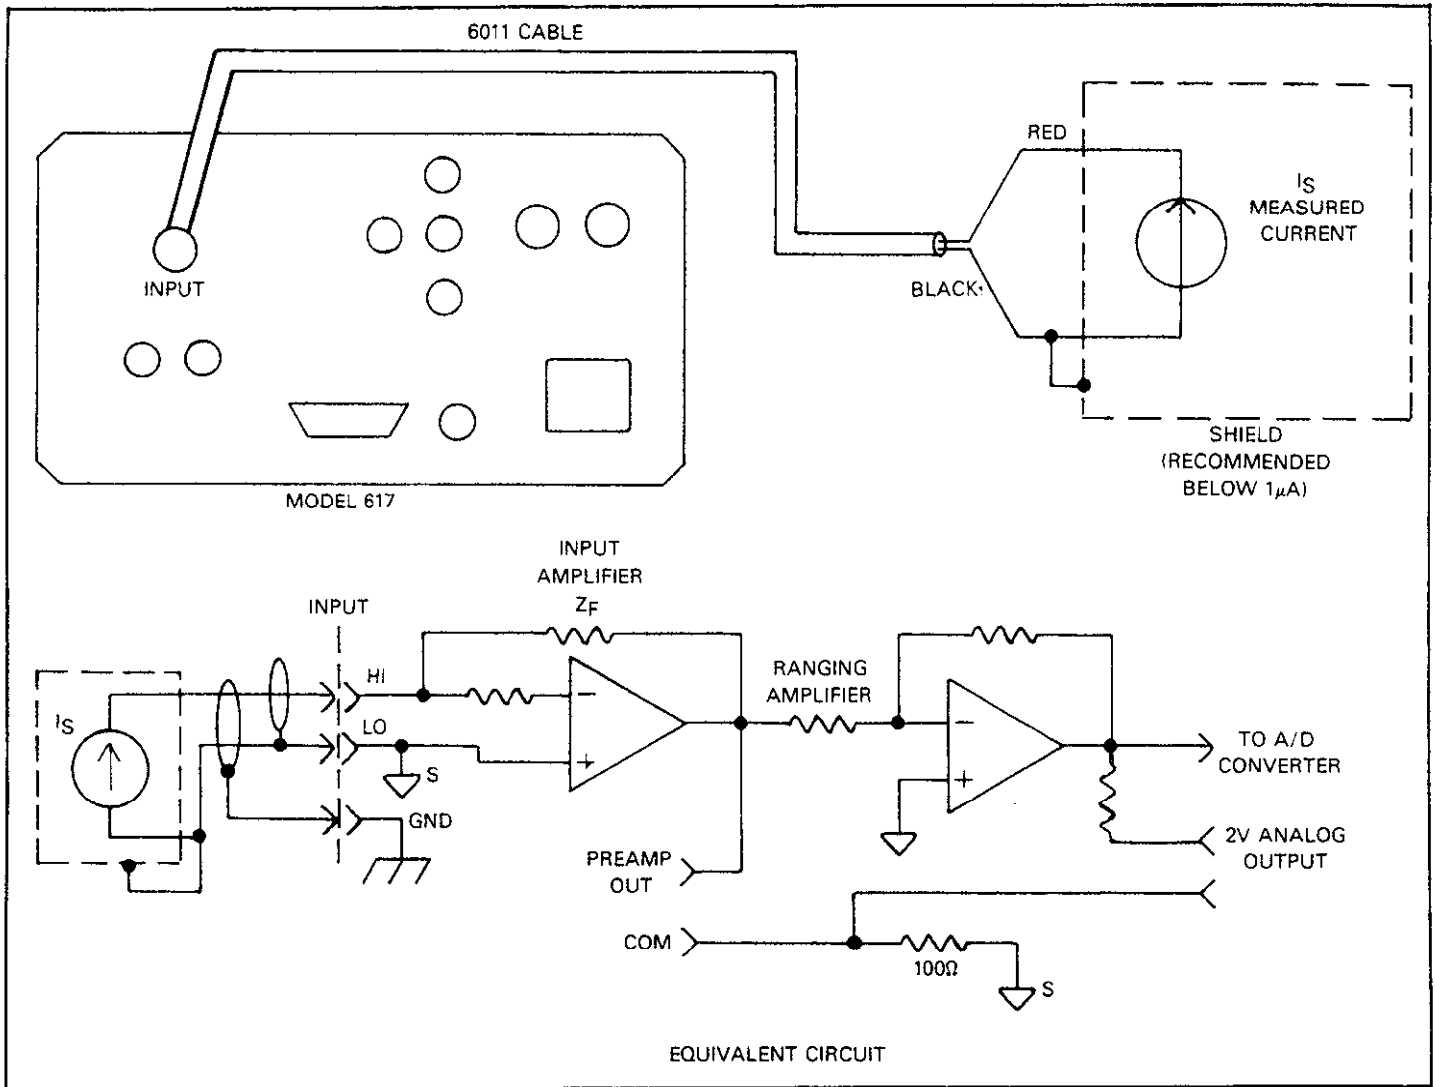

Figure 2-9. Current Measurements
4. Connect the Model 6011 or other similar cable to the rear panel INPUT jack. Connect the other end of the circuit to be measured as shown in Figure 2-9. Shielding will be required for low-level measurements. Connect the shield to input low.
2. Enable zero check and connect the current to be measured to the INPUT jack (see Figure 2-9).